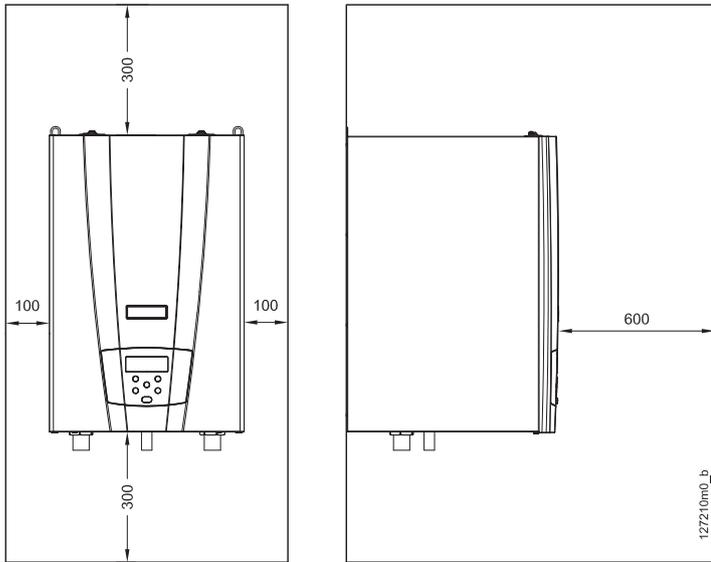

Figure 5-1 – Minimum safety distances
- ☞ Check figure 5-1 concerning the minimum safety distances for installation and future maintenance.
For both installation and maintenance, it is necessary to leave free spaces around the boiler, as shown in figure 5-1.